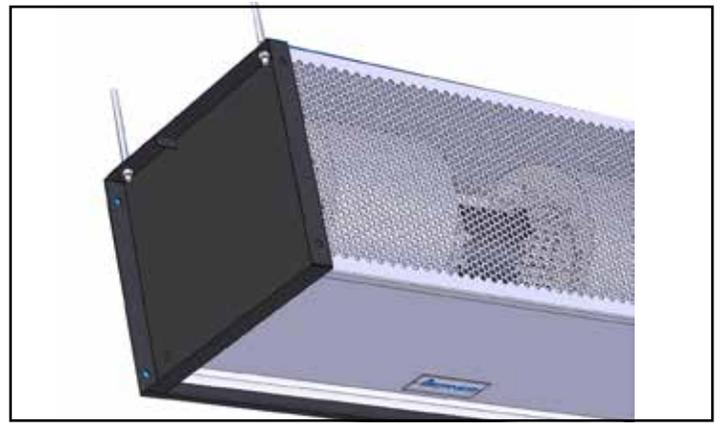
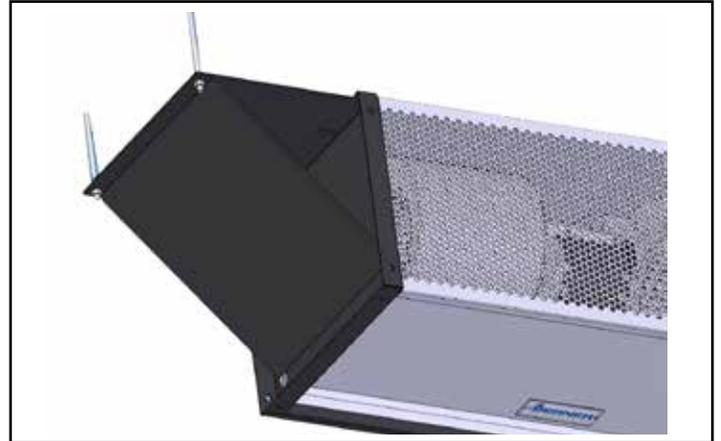

Figure 5
Figure 6 - With Extension Brackets
- B. The IDC12/IDC14 Series end plates are equipped with 13mm holes for suspended mounting. The unit may be suspended using a minimum M10 suspension rod (**Figure 5**), or using M10 suspension rods and extension brackets (available from Berner). **See Figure 6.**